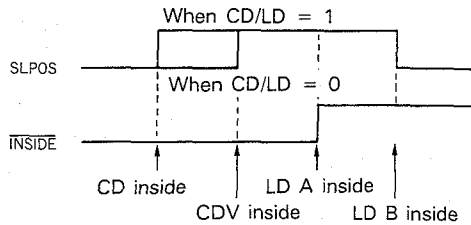

Fig. 17-2-1 Relationship of inside positions of CD, CDV and LD discs
Note 1: The LD, CDV and CD inside position signals are related to each other as shown in Fig. 17-2-1, and each position is indicated by the ON/OFF status of the position detect switches (SW) provided for each.